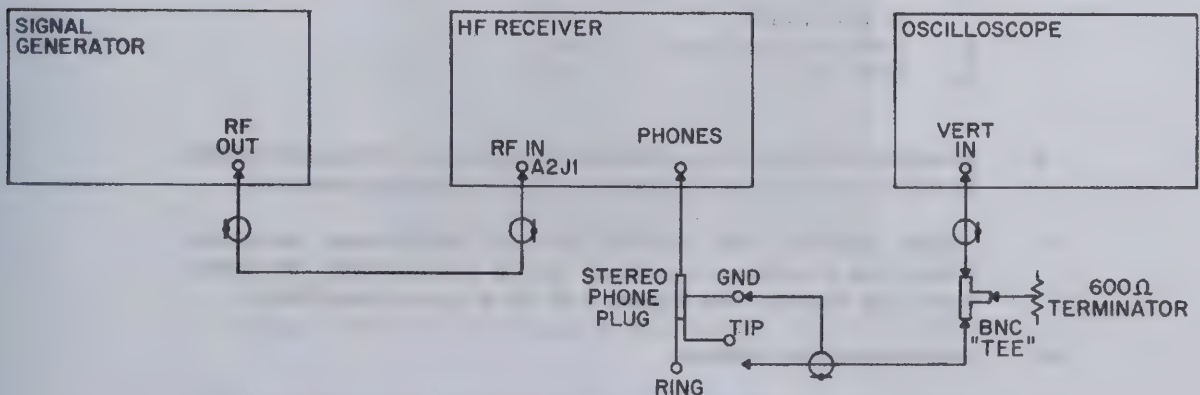

Figure 4-24. ISB Detector/Audio Adjustment, Test Setup
1. Deenergize the receiver and connect the equipment as shown in Figure 4-24.